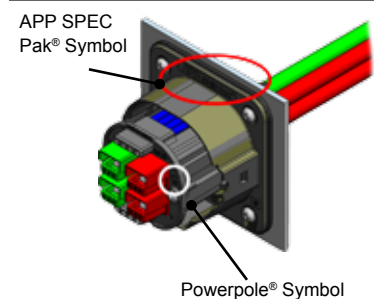

Figure 9
- Slide holder into shell. (See figure 9) **NOTE:** The holder will only go in one way.
- Using two(2) M3.5 x 15mm Phillips head screws, secure the holder to the shell.